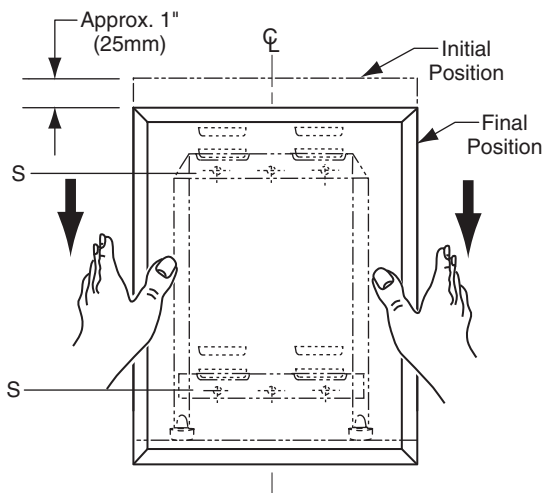

Figure: 3
**Snap Locking Design** — Locking devices automatically secure mirror to concealed wall hanger when it is lowered into final position. Locking devices may be unlocked by inserting two flat blade screwdrivers behind each side of mirror near the bottom or under the bottom of the mirror and pulling mirror bottom forward and then up (see figure 3).